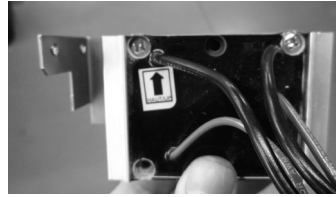

FIG. 1
2. Position the relay on the bracket provided (with the arrow pointing towards the top of the box) and fasten on the bracket with screws (FIG. 1). NOTE: Perform the power and ground connections before installing the support in the junction box.